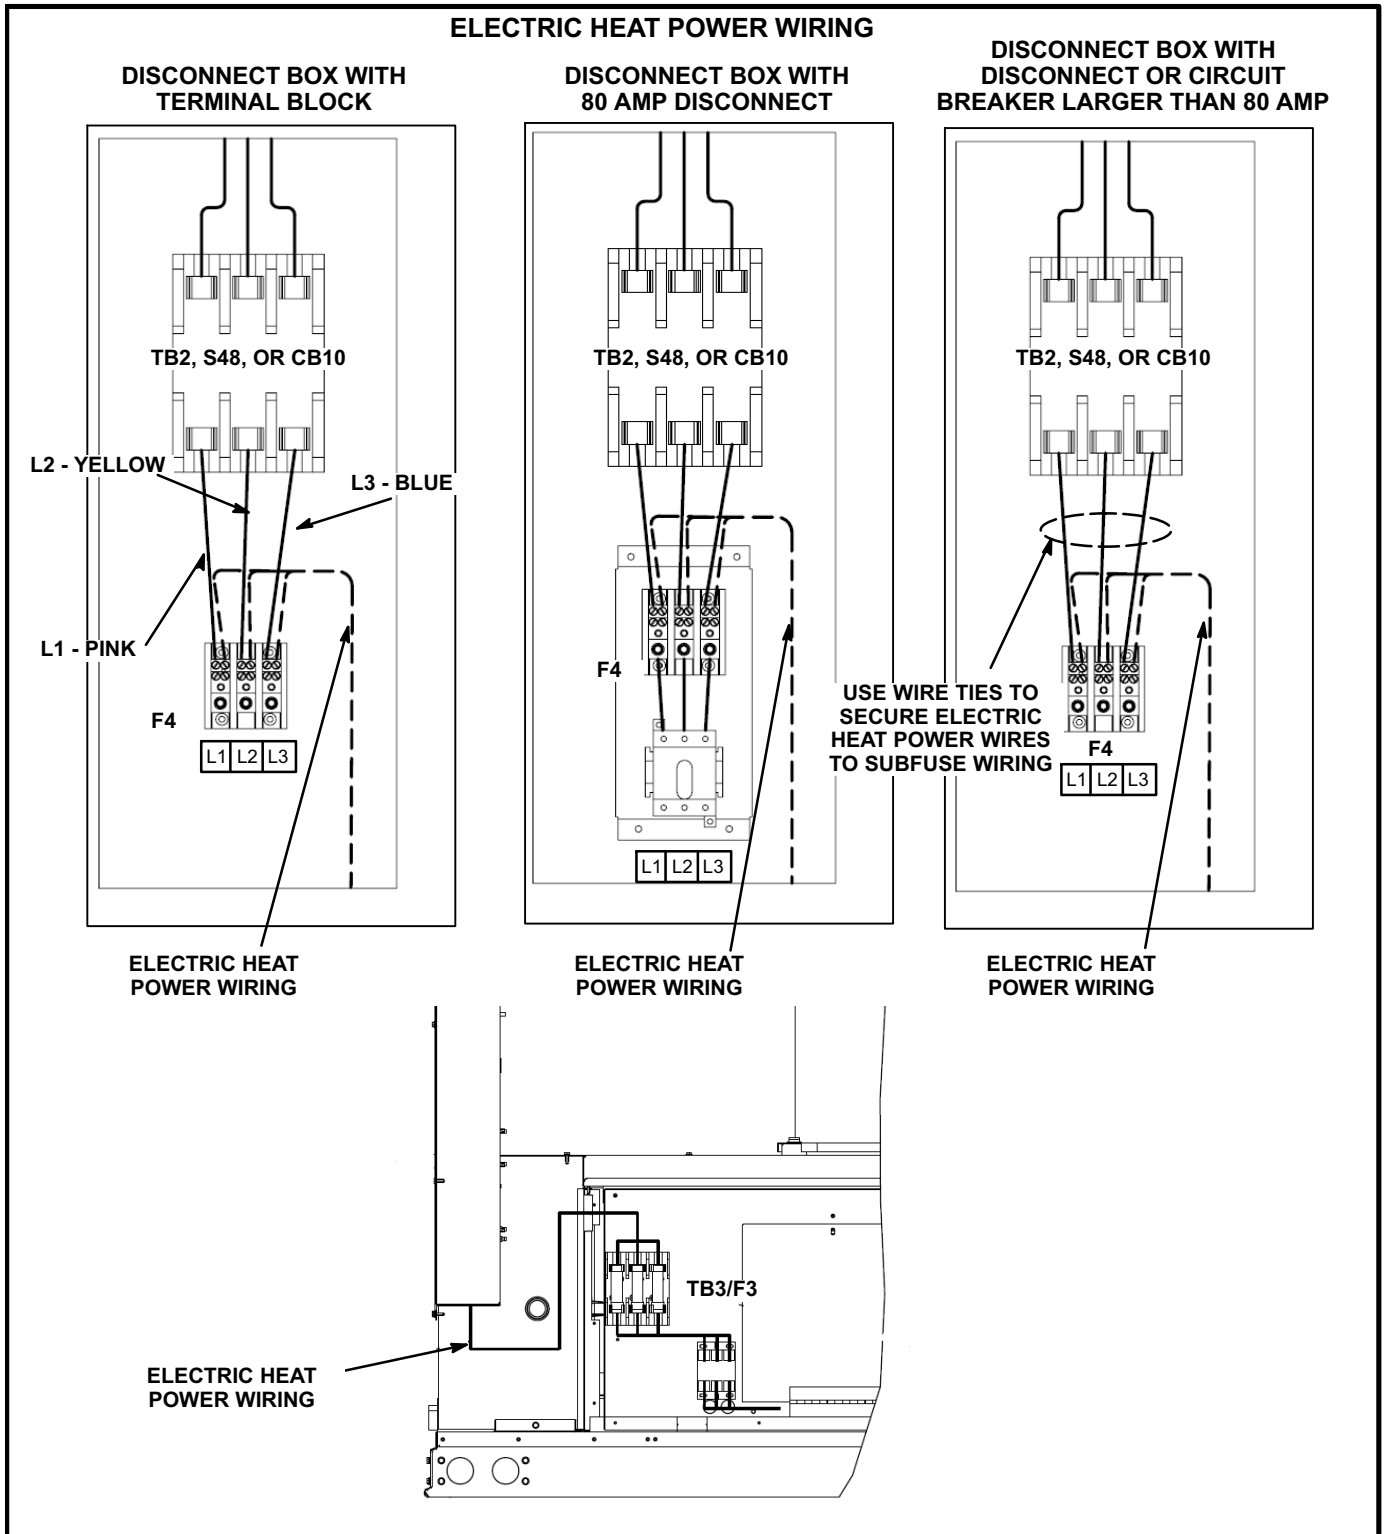
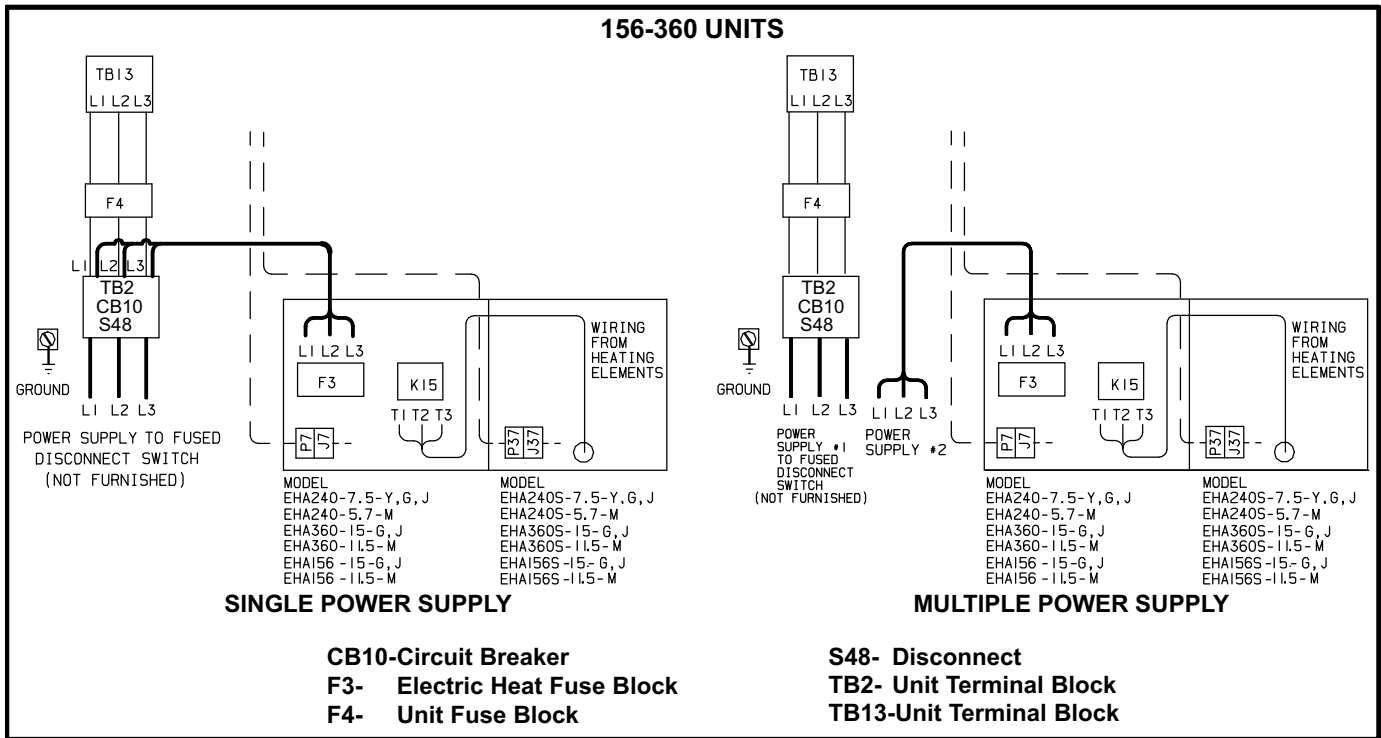

FIGURE 4
FIGURE 5
- 2- Connect electric heat power wiring to unit terminal block TB2 or CB10/S48 as shown in figure 4. Also see figure 5, 6, or 7 depending on the options included on the electric heat assembly.
- 3- Route the other side of the electric heat power wiring through the bottom of the disconnect box and the side of the electric heat compartment. Connect power wiring to electric heat fuse block F3 or electric heat terminal block TB3. See figure 4.